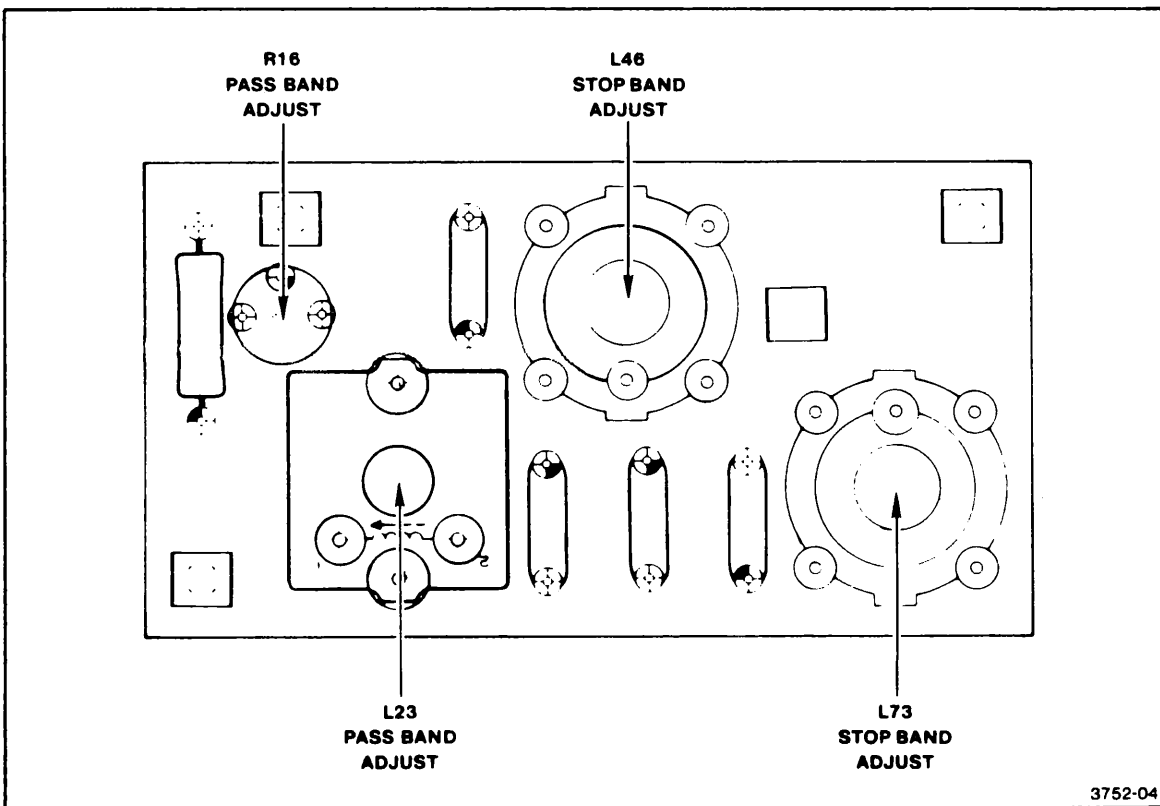

Figure 4. Adjustment Locations.
4. Using the equipment listed in Table 4, or equivalent, connect the test equipment setup shown in Figure 3. Make sure all connections are electrically stable and wherever possible use 'short' interconnecting cables to reduce signal loss. Remove the four screws retaining the lower (unlabeled) half of the filter case (see Figure 4) and pull off the half case.